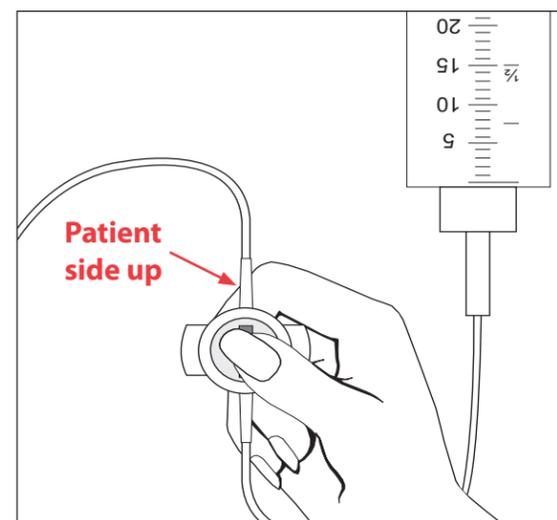

fig. 2
2. Hold pressure sensing disc between two fingers and invert disc so patient side is up (fig. 2)